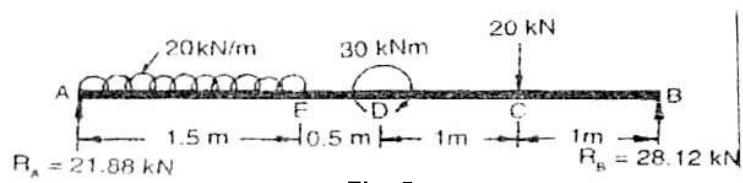

Fig. 5
- (b) The composite steel and brass rod shown in Fig. 5 is attached to unyielding supports with no initial stress at 25°C . Determine the stress in each segment when the temperature is reduced to -5°C . For steel, $E=210\text{GPa}$ and $\alpha=12\times 10^{-6}/^{\circ}\text{C}$, and for brass, $E=100\text{GPa}$ and $\alpha=12\times 10^{-6}/^{\circ}\text{C}$ **(10, 10)**